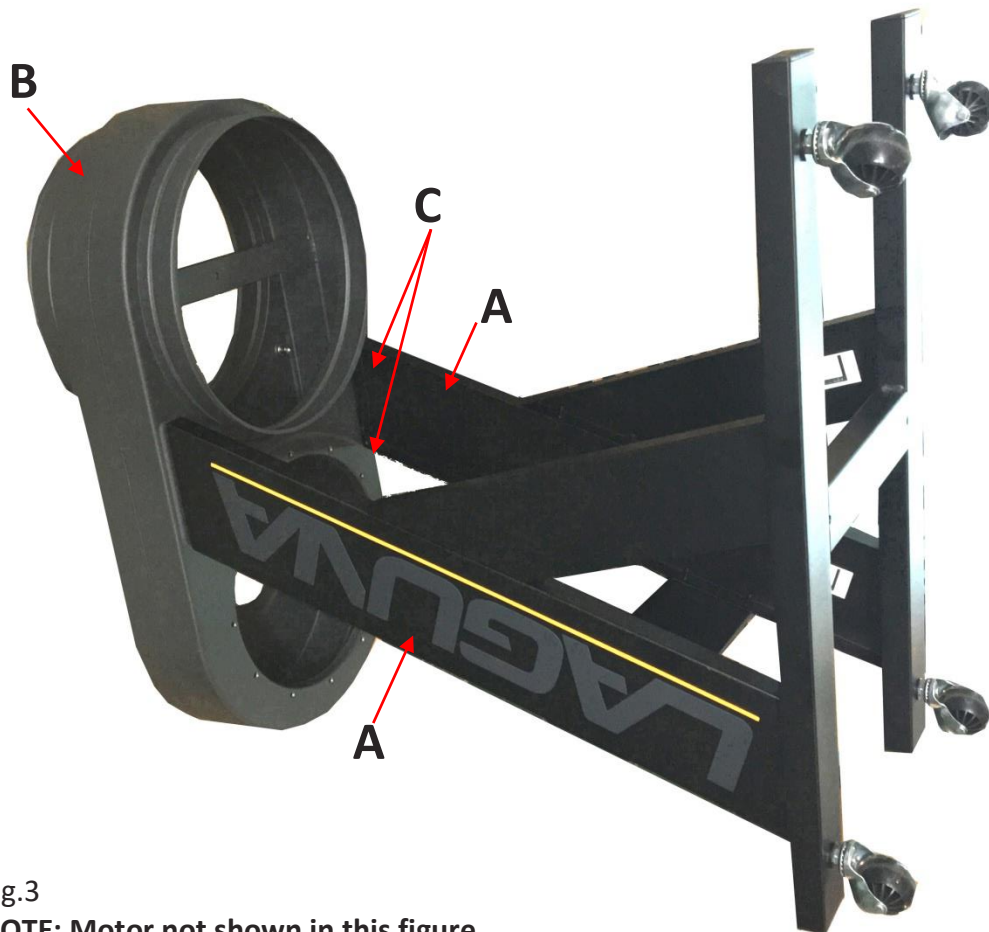

Fig.3
2. Align the four holes, two shown at C, on the top of the side supports (A) Fig. 3, with the four holes on the dust chute (B).